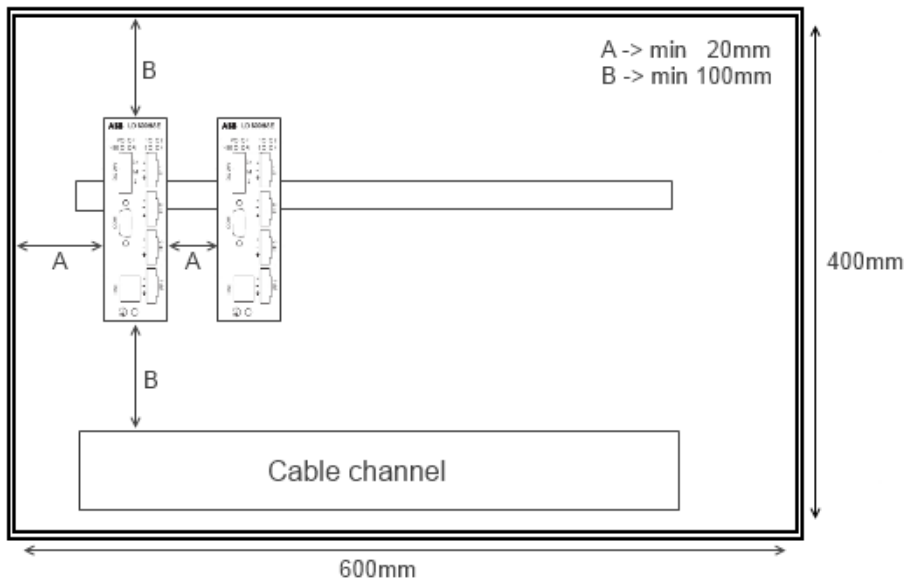

Figure 4. Field Housing with LD 800HSE Clearances
- Clearance between the linking device and the adjacent components or side walls of the housing must be adhered as illustrated in Figure 4.